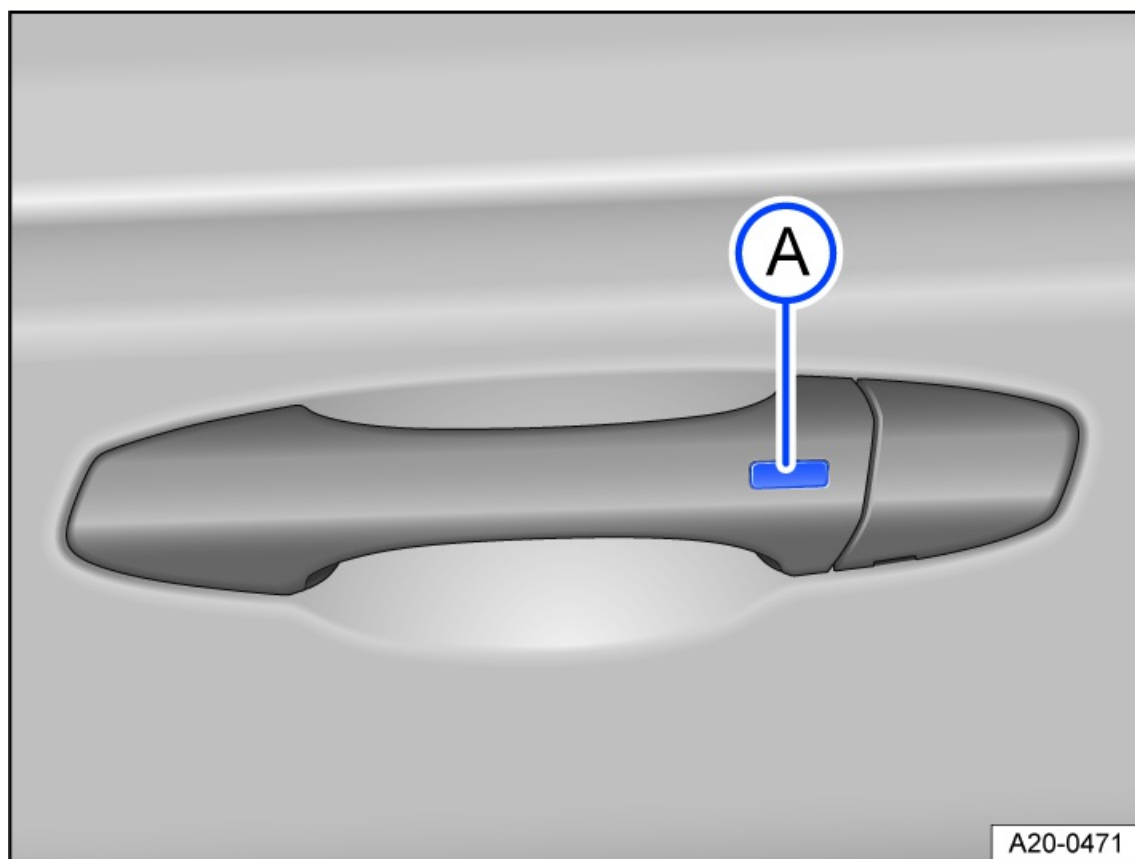

Fig. 53 In door handle: Button to unlock or lock.
1. Press the button on the outside of the door handle *fig. 53*.
2. Press the button on the outside of the door handle *fig. 53*.
2. Within five seconds of locking the vehicle, press the button on the outside of the door handle once *fig. 53*. Do not grasp the door handle during this process.